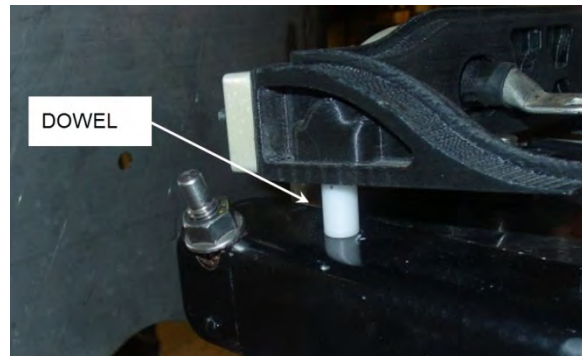

FIGURE 41: DOWEL ON ANGLE
5. Align the dowels on the angles with the holes on the cable guides (**Figure 41**).